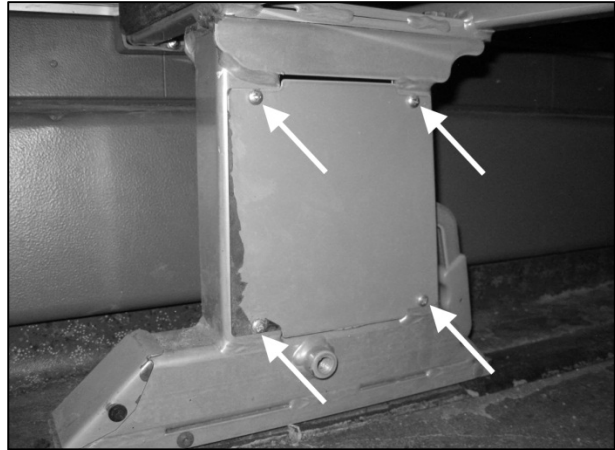

Figure 7: Access to rear nuts (Road side seat)
4. Remove access panel (4 screws) to reach the rear nuts. (Fig 7).
Reinstall access panels (Fig 7)